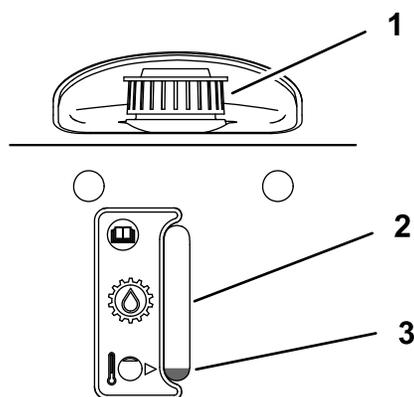

Figure 49
4. Use the sight window to check the fluid level in the expansion tank (Figure 49).
13. Add hydraulic fluid to the expansion tank until it reaches the fluid line (Figure 49).